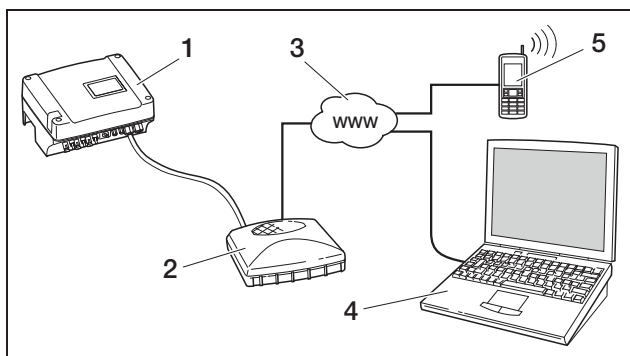

Fig. 45: Retrieving log data: Inverter connected to the Internet via DSL
- The inverter can then be accessed over the Internet under the domain name provided by the DynDNS service, and you can connect to the inverter with any Internet browser (see figure 45).